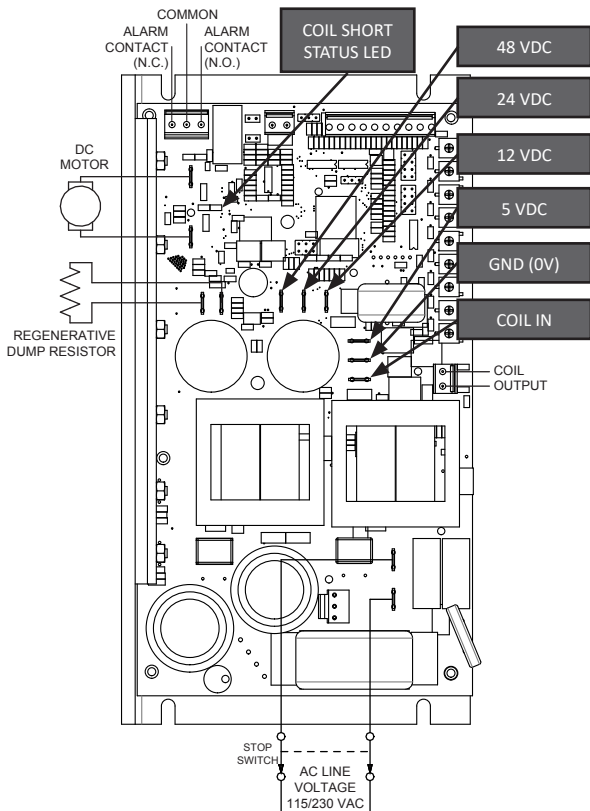

Figure 8. Power, Motor, Brake Coil, and Alarm Connections
Minarik Drives strongly recommends the installation of a master power switch in the voltage input line, as shown in Figure 8 (page 17). The switch contacts should be rated at a minimum of 200% of motor nameplate current and 250 volts.
Connect the AC line power leads to terminals L1 and L2. It is recommended to use a single-throw, double-pole master power switch. The switch should be rated at a minimum of 250 volts and 200% of motor current. Refer to Figure 8 on page 17.
Connect a DC motor to terminals A1 and A2. Refer to Figure 8 on page 17. Ensure that the motor voltage rating is consistent with the drive's output voltage.
The controller provides access to the DC BUS to provide a voltage supply to external components. All voltage potentials are in relation to the GND terminal and isolated from the AC line. Refer to Figure 8 on page 17 for terminal locations.
Refer to Figure 8 on page 15 wiring and terminal locations.
It is recommended to use one 10 Ω , 100W resistor (or two 20 Ω , 50W resistors in parallel). For quicker braking, use a resistor of less resistance with more power capacity. Refer to Figure 8 on page 15 for wiring terminal locations.
The controller provides 2 contact outputs to signal when it's in motoring current limit, one normally open (NO) that closes during the alarm and the other is normally closed (NC) and opens during an alarm. The contacts are rated for 1A @ 30 VDC, up to 250 VDC. Refer to Figure 8 on page 17 for wiring terminal location.
For this reason, American Control Electronics strongly recommends installing an emergency stop switch on both AC line inputs (see Figure 8 on page 17).